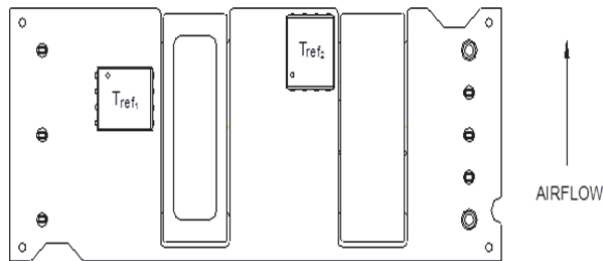

Figure 13. T_{ref} Temperature Measurement Locations for Open Frame Module.
To provide protection under certain fault conditions, the unit is equipped with a thermal shutdown circuit. The unit will shutdown if the thermal reference point, T_{ref} , exceeds 124 °C & 121 °C respectively °C (Figure 13, typical), but the thermal shutdown is not intended as a guarantee that the unit will survive temperatures beyond its rating. The module will automatically restart upon cool-down to a safe temperature.
The thermal reference points, T_{ref1} , and T_{ref2} used in the specifications for open frame modules are shown in Figure 13. For reliable operation these temperatures should not exceed 124 °C & 121 °C respectively